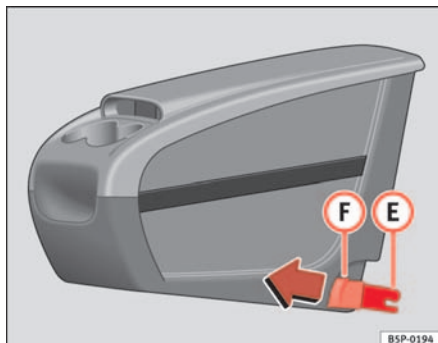
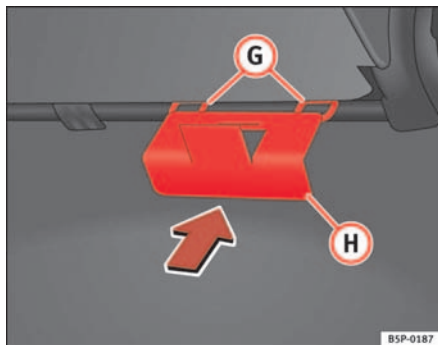

Fig. 109 Mobile stowage compartment installing
Fig. 110 Mobile stowage compartment mounting plate
- Fit the mobile stowage compartment mounting plate (H) ⇒ fig. 110 from the inside of the vehicle, through the rear section of the seat. It should be fitted between the back rest and the seat, in the central seat area.
- Set both mounting pieces together (E) ⇒ fig. 109, with both mounting rings (G) ⇒ fig. 110 and press hard until both the clips completely connect with the rings.
- Pull each of the buttons ⇒ fig. 109 (F) on the clips (red buttons) forwards, until they snap out of place.